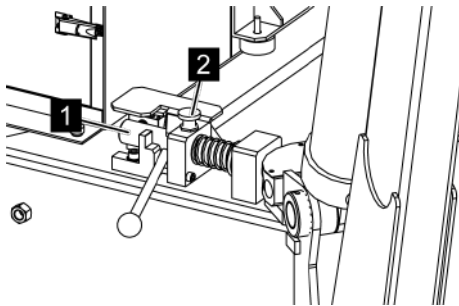

Fig. 86: Latching
4. ➔ Put the latching bolt (Fig. 86/1) into the position shown (Fig. 86) and let the locking pin (Fig. 86/2) snap in.